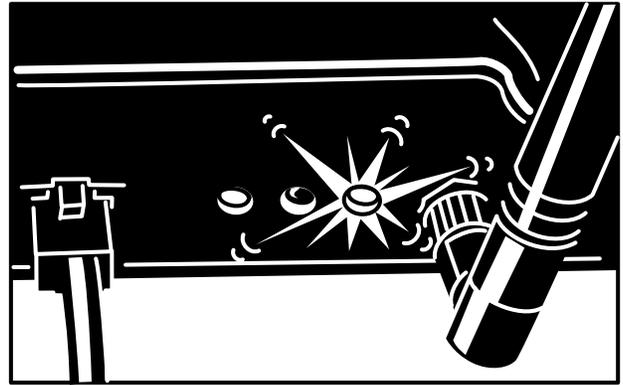

Figure 11
3. Ensure that the Internet connection light illuminates (Figure 11).